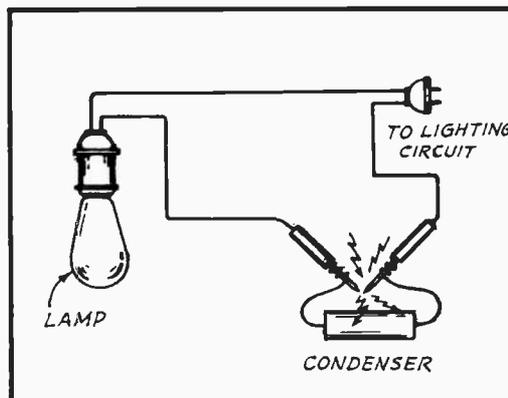

FIG. 11
**FIXED CONDENSERS:** The best way to test condensers of this type is to use line-current, either a-c or d-c. For this purpose, we connect a pair of test leads in series with a lamp of the same voltage as the line (see Fig. 11). The condenser under test is connected between the test leads. If the line-current is d-c, the lamp should not light. Also, if the line-current is a-c, the lamp should not light, unless the capacity of the condenser is very large, and in this case, only a dim glow should be emitted by the lamp. If the lamp lights at normal intensity, the condenser is shorted.
Now, we proceed to test for an open circuit. We do this by simply touching together our test leads, as in Fig. 11. If the condenser is in good condition, a small, sharp spark is produced as the leads are touched together. The intensity of this spark is determined by the capacity of the condenser. The above tests are more or less exact